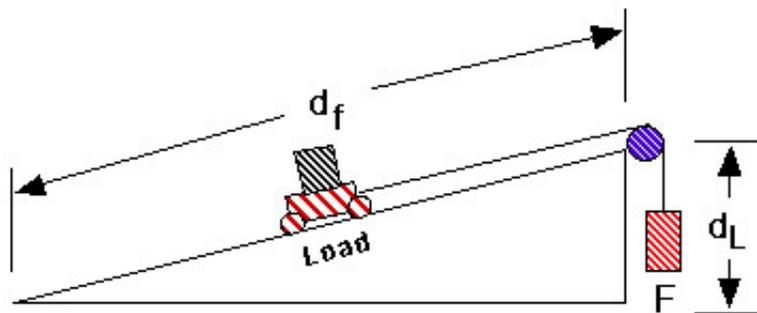

Fig 11-1
Set up the inclined plane as shown in Figure 11-1. Let the angle be about  $30^\circ$ .
**NOTE:** The load is raised against gravity (straight up) and the force moves up the slope. See Fig. 11-1.